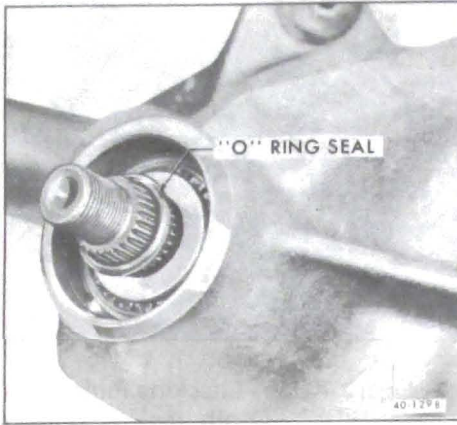

Figure 40-107 - Installing Pinion "O" Ring
1. Position pinion assembly in carrier and install collapsible spacer as shown in Figure 40-107.